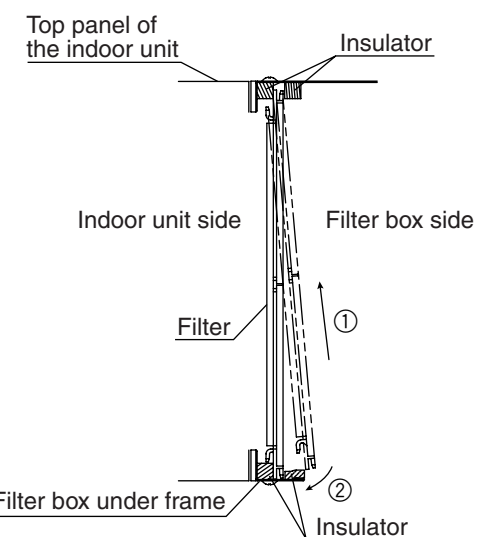

Fig.4-2-3
(3) Insert the filter between the insulators on the top plate of the filter box until the filter is completely inside the filter box, and place the filter on the under frame of the filter box. (Fig. 4-2-3)
(4) Install the under panel.